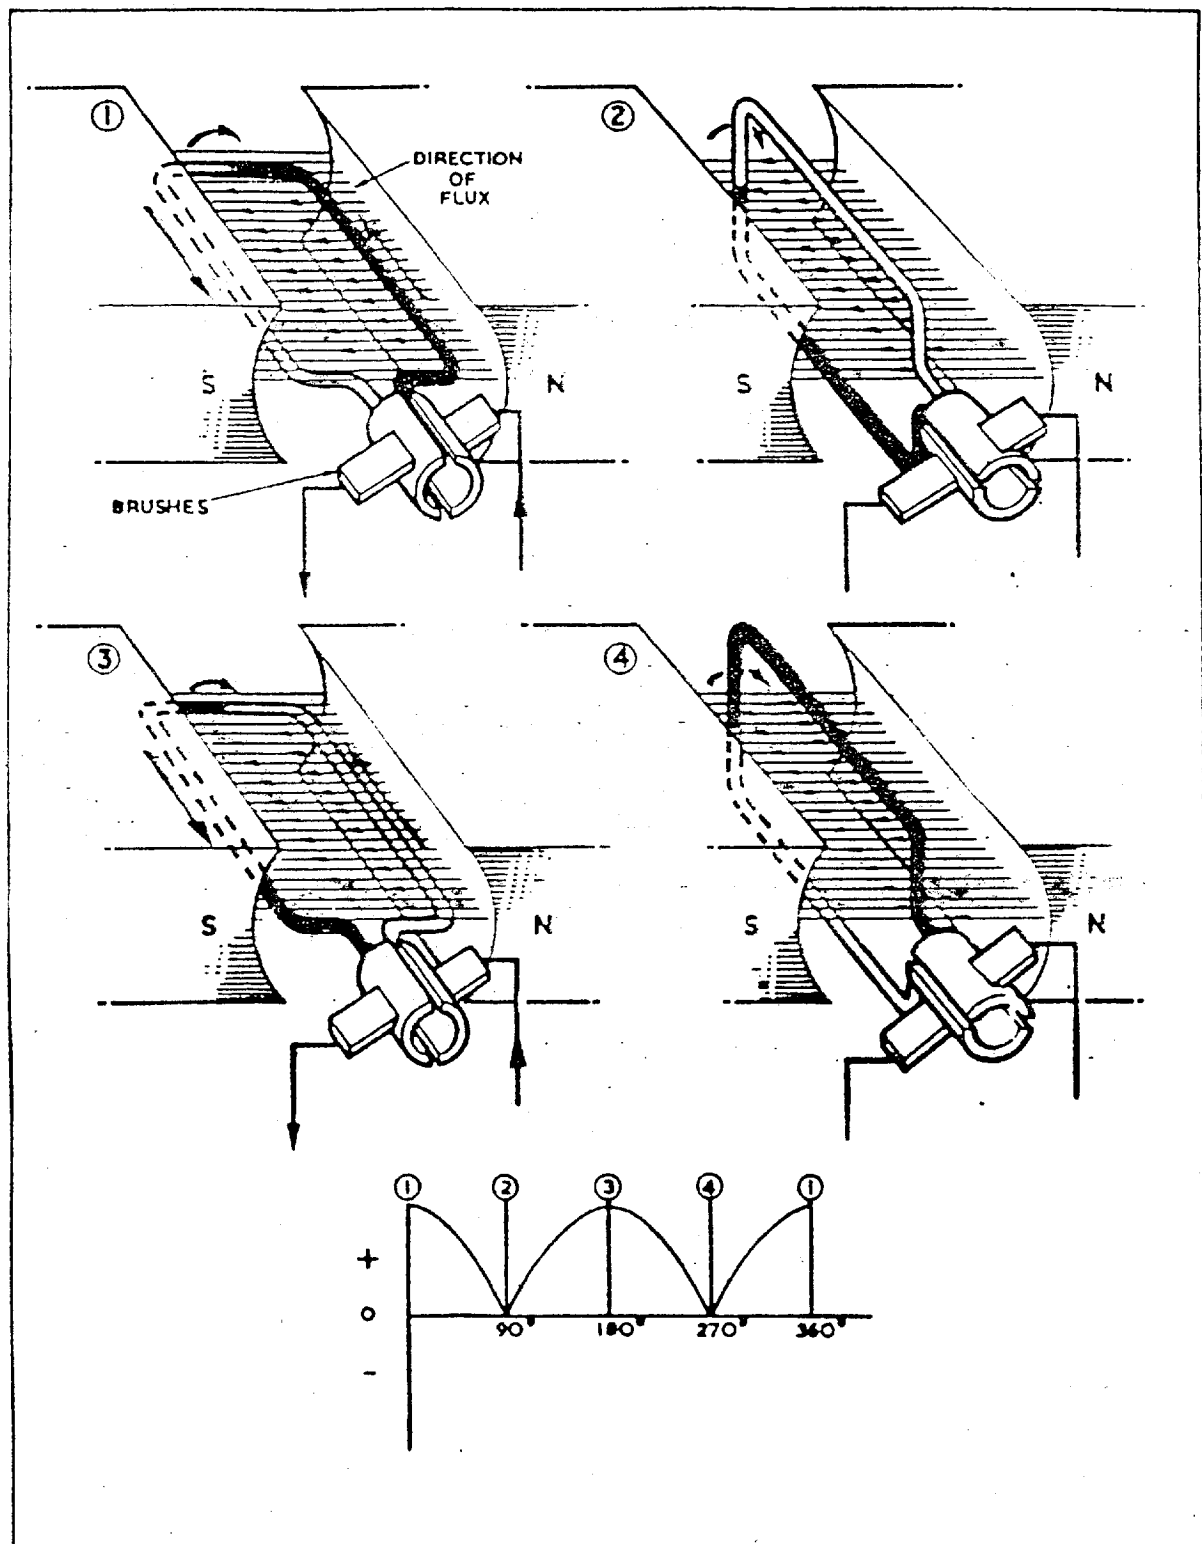

Fig. 11. A simple D.C. Generator.
1.5.4. Production of electric power. Fig.11. When a coil is rotated between the poles of a magnet a voltage is induced in the coil. The value of the voltage depends upon the strength of the magnetic field and the rate at which the lines of force are cut by the coil. For a given coil being rotated at constant speed the value of the voltage is maxi-